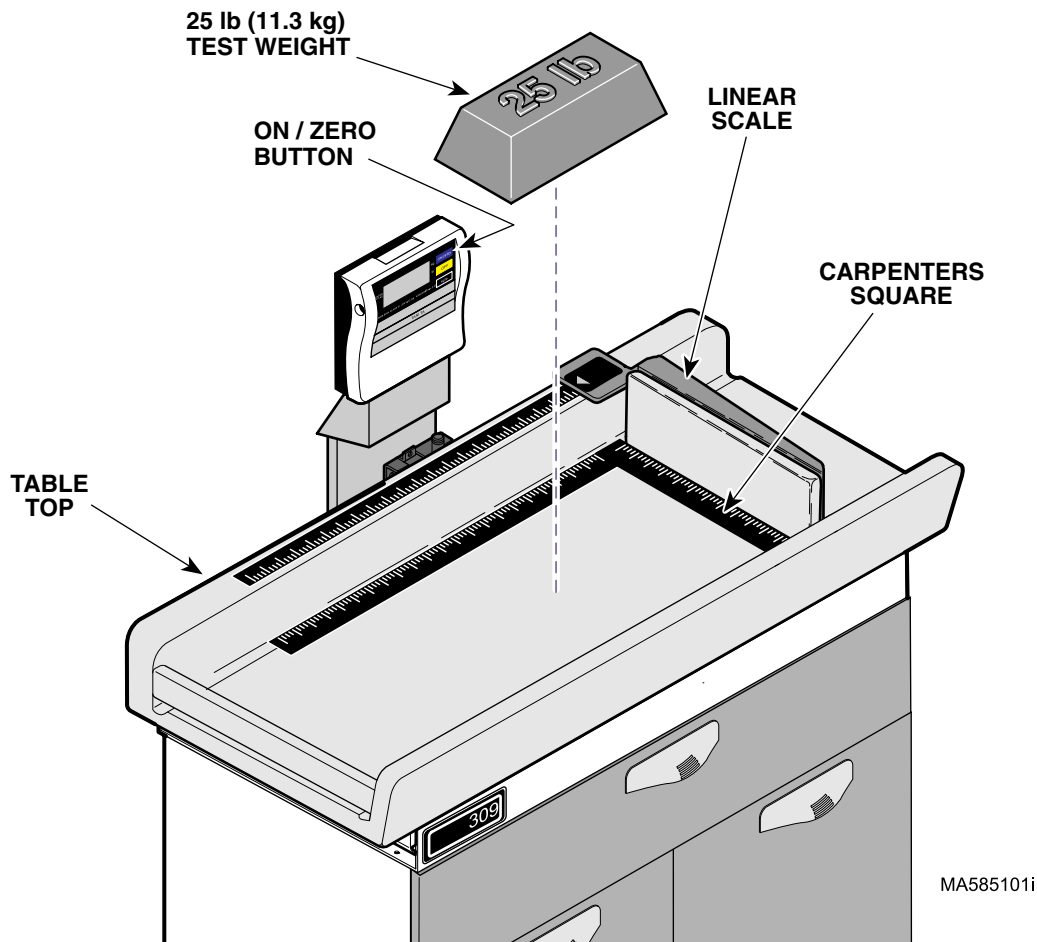

Figure 2-2. Operational Test (Models 309-005 & 309-006)
2.2 Operational Test (Models 309-005 and 309-006) (See Figure 2-2)